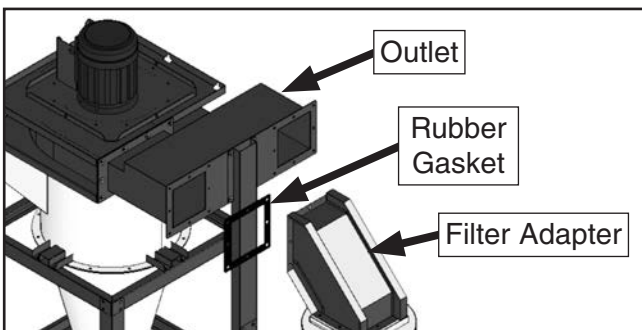

Figure 21. Filter components assembled.
20. Place square rubber gasket on open end of a filter adapter (see **Figure 21**), then secure filter adapter to outlet with (8) $\frac{3}{8}$ "-16 x 1" hex bolts, (16) $\frac{3}{8}$ " flat washers, and (8) $\frac{3}{8}$ "-16 lock nuts.